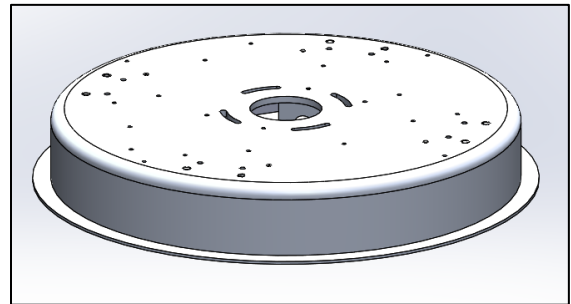

FIG. 5- CANOPY WITH DRIVER INSTALLED
2. CANOPY WITH DRIVERS INSTALLED (as shown in FIG. 5)